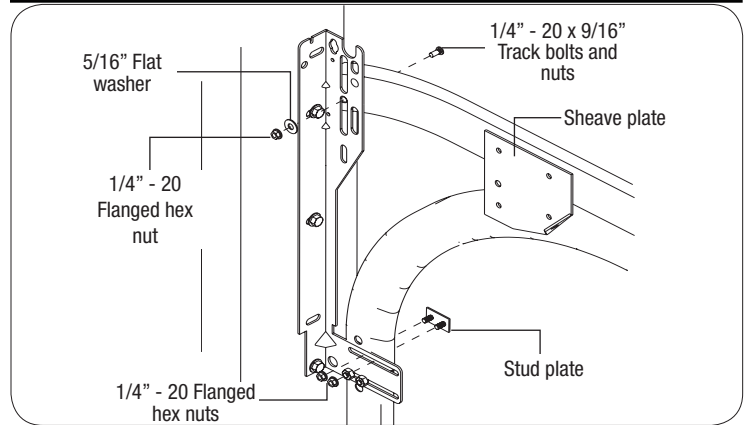

FIG. 8.1
Place (1) 1/4-20 x 9/16" track bolt through the slot in the end of the top curve and the appropriate slot in the flagangle, then secure with a 5/16" flat washer and flanged hex nut (do not fully tighten). Level the horizontal track, then tighten the bolt in the top curve, as shown in **FIG. 8.1**.